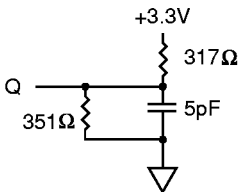
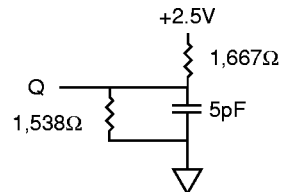

Figure 2
Figure 4
2. This parameter is measured with output load as shown in Figure 2 for 3.3V I/O and Figure 4 for 2.5V I/O.